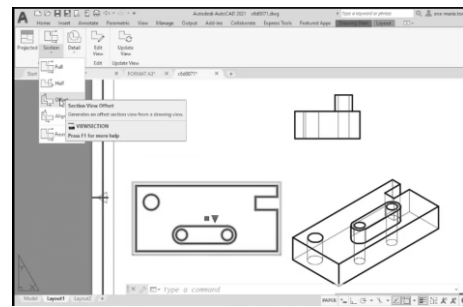

Figure 13 Section View OFFSET
- In case of the first object, the nonsymmetrical one, the Section View Offset is chosen, like shown in Figure 13.